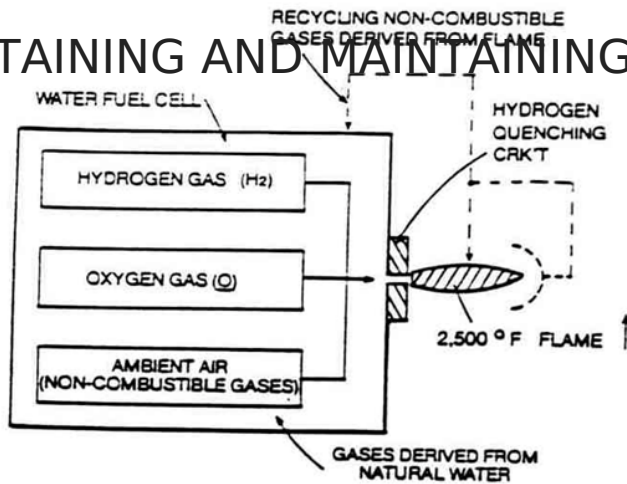

FIG. 24: RENDERING HYDROGEN SAFER THAN NATURAL GAS
expelling from said **Quenching Nozzle** (20) of **Figure 24SB** as to Figure 24, a **hydrogen/oxygen flame** (9) of **Figure 24SB** as to Figure 24 is sustained and maintained regardless of the gas-rate of said Fuel Cell.